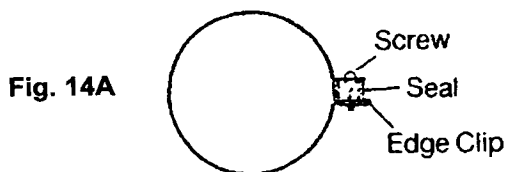

Fig. 14A
5.5.1 Assemble the large and small maintenance clips as fig.14A.
- 5.5.21 Assemble the large and small maintenance clips as shown in fig 14A